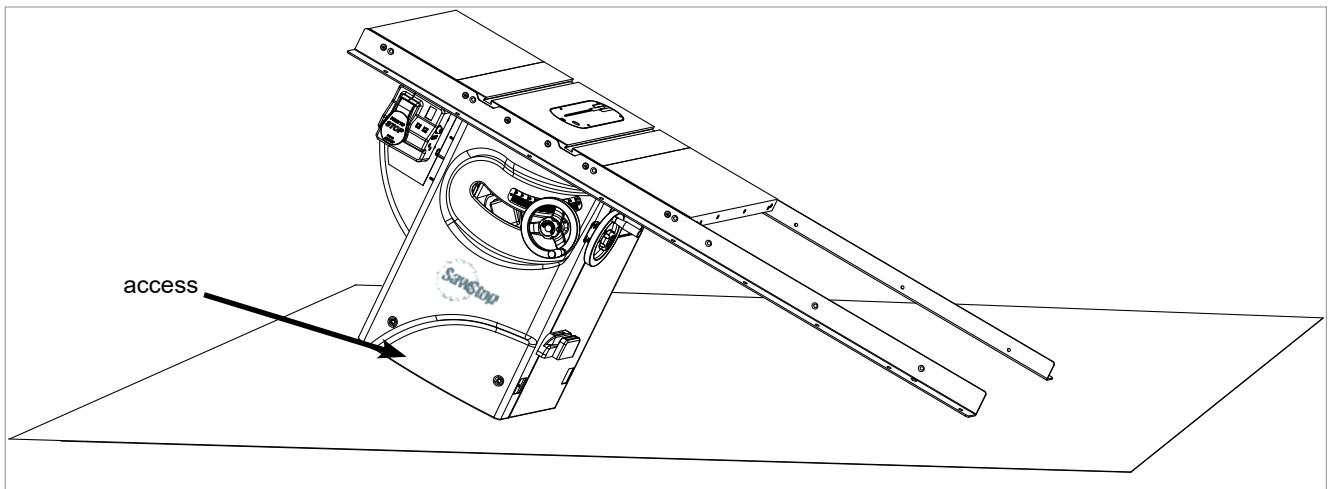

Fig. 19
1. You need access to the bottom of your saw to install the mobile base. The easiest and safest way to provide that access is to tip the saw so that it rests on the end of the front rail, as shown in Fig. 19. The saw's center of gravity makes it stable when in this position. Both the front and rear rails must be securely mounted on the saw before tipping the saw.